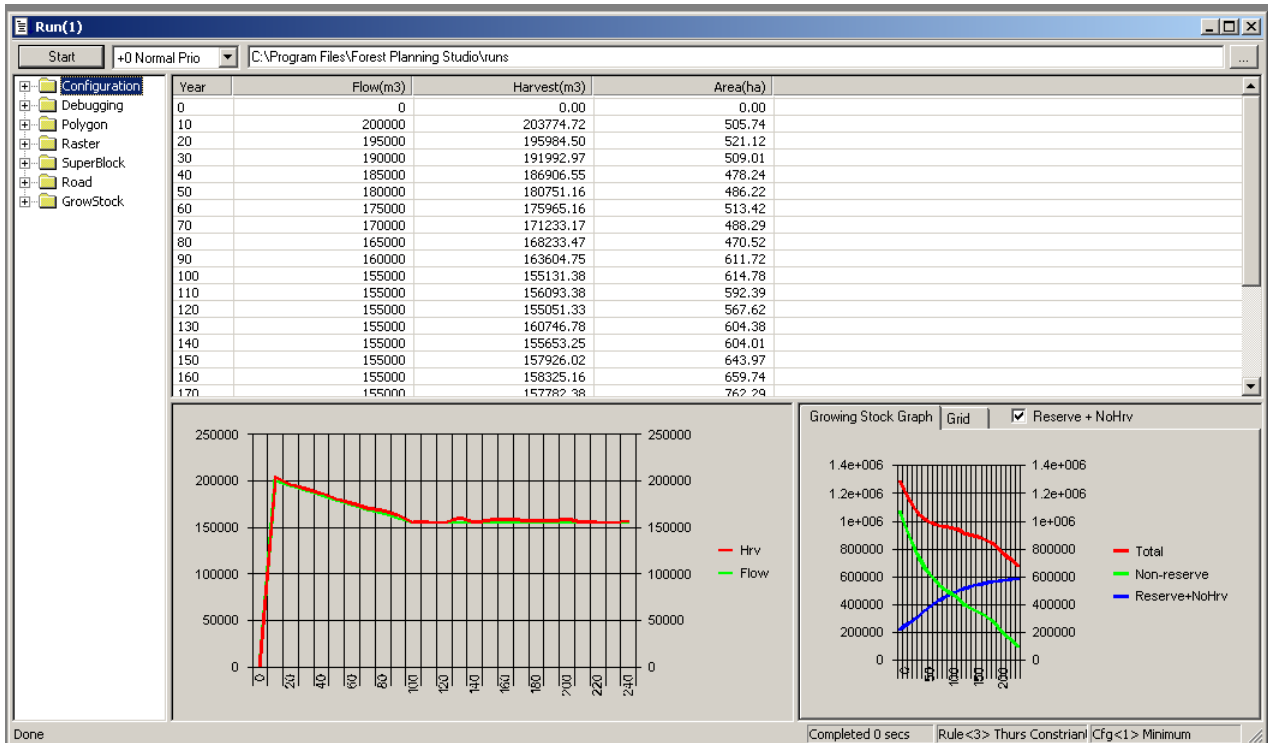

Figure 31: Adjusted flows to account for the remove of the reserve zone from the THLB.
3.4.5 Add the flow targets show in figure 31.
Notice the growing stock in figure 31. What happens if you run the simulation for 340 years?